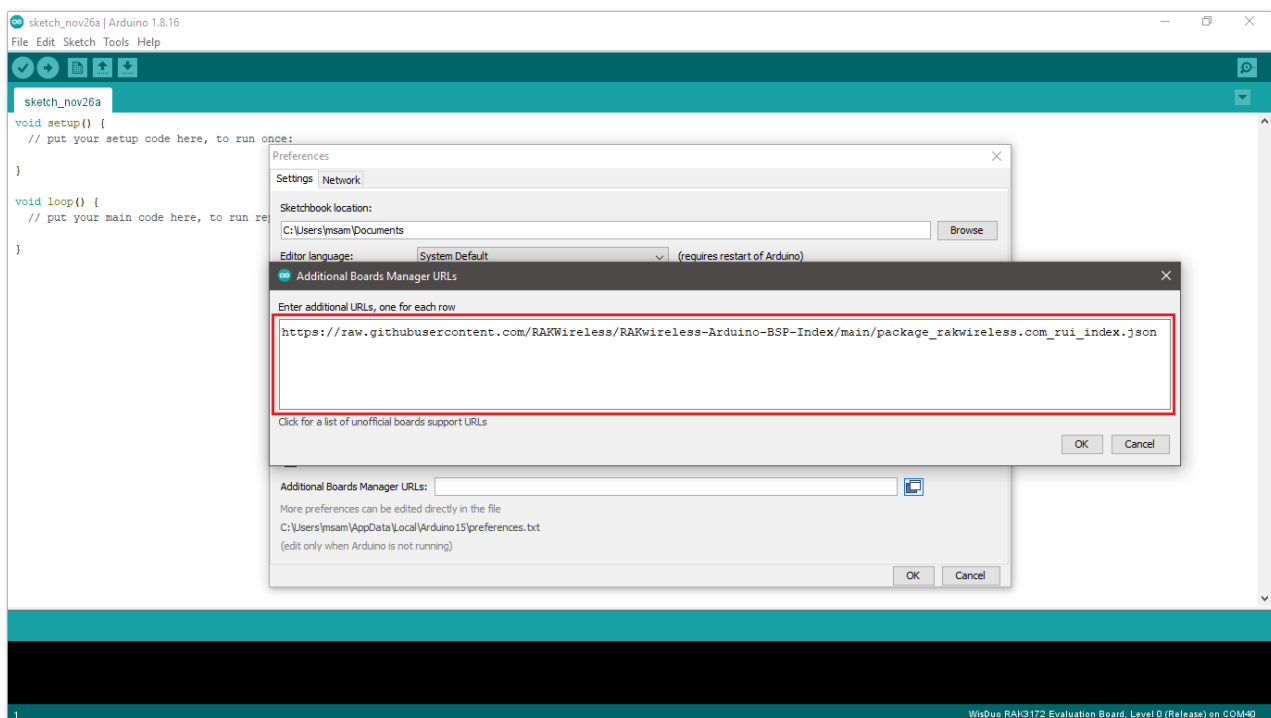

Figure 6: Add additional board manager URLs
- Copy the URL [https://raw.githubusercontent.com/RAKWireless/RAKwireless-Arduino-BSP-Index/main/package\\_rakwireless.com\\_rui\\_index.json](https://raw.githubusercontent.com/RAKWireless/RAKwireless-Arduino-BSP-Index/main/package_rakwireless.com_rui_index.json) and paste it on the field, as shown in Figure 6. If there are other URLs already there, just add them on the next line. After adding the URL, click OK.